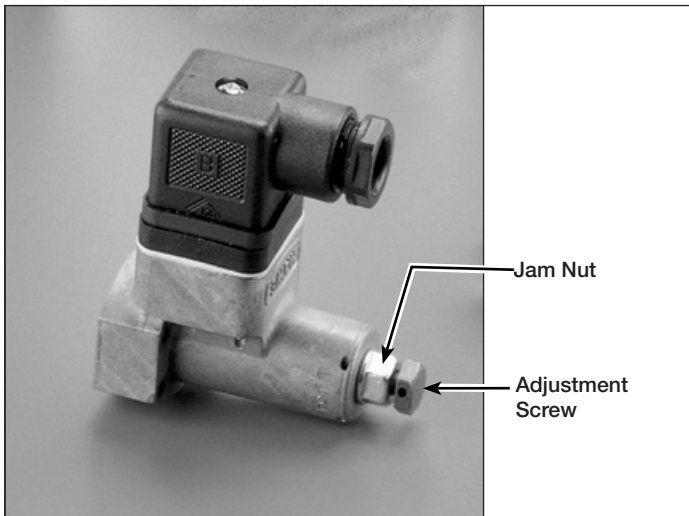

Figure 10, Pressure Switch
2. Using a 10 mm wrench, turn switch adjustment screw clockwise to increase or counter-clockwise to decrease pressure (see Figure 10).